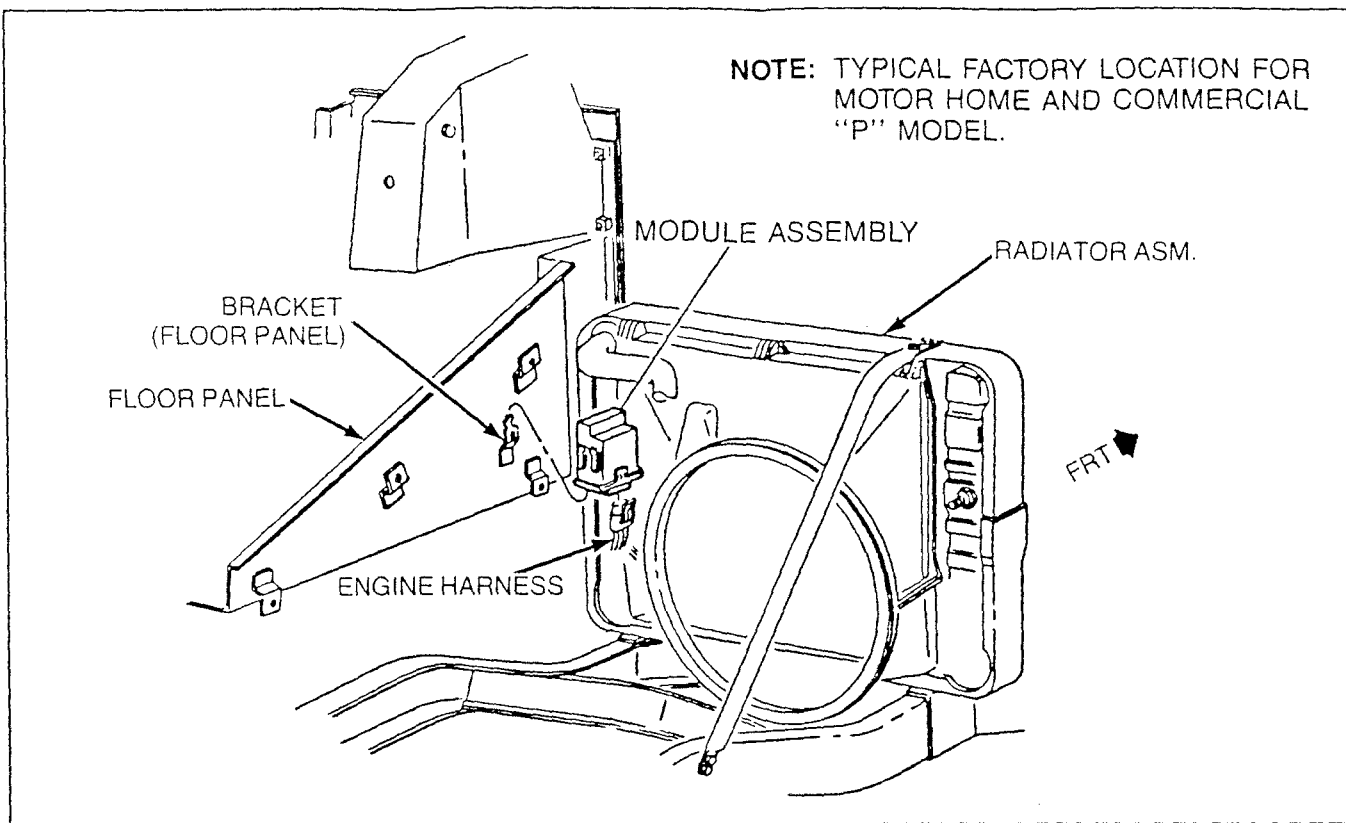

Figure A7-14-2 — A.I.R. Connector Module
2. With ignition on, disconnect each solenoid connector and with a test light, check for a light across the terminals. (See Figure A7-14-2.)